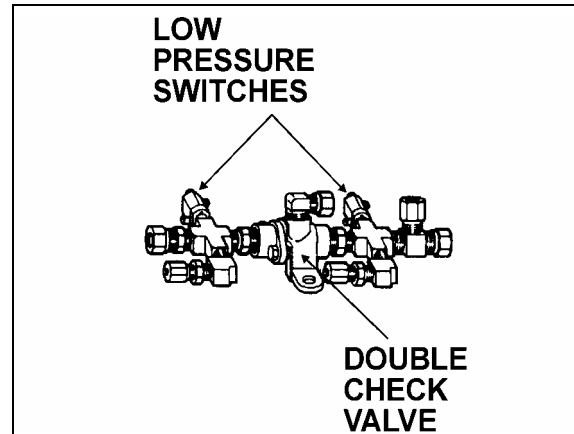

FIGURE 21: DC-4
1. Replace the linkage, loosen threaded rod lock nuts and screw or unscrew the threaded adjustment rod in order to obtain a 45° brake pedal inclination (Fig. 21).